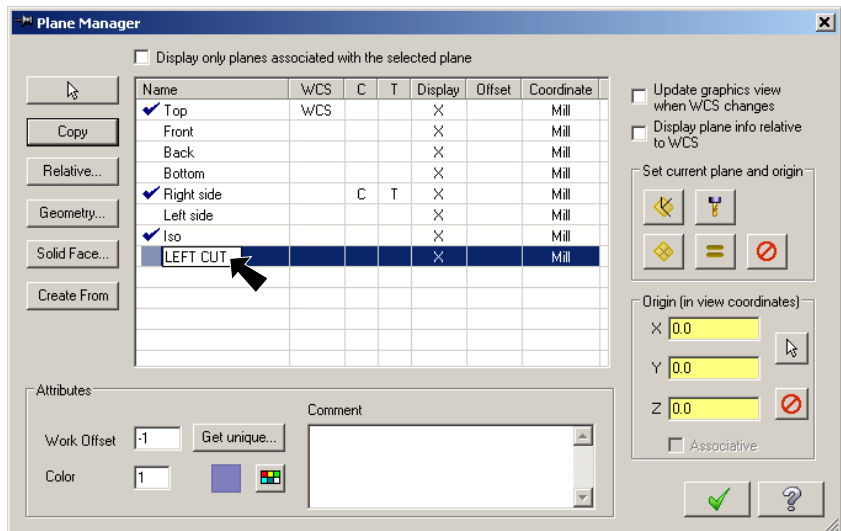

Fig. 25
Step 3. Rename TOP-1 to **LEFT CUT**. To rename, slowly click the plane name and key-in the new name, **Fig. 25**.